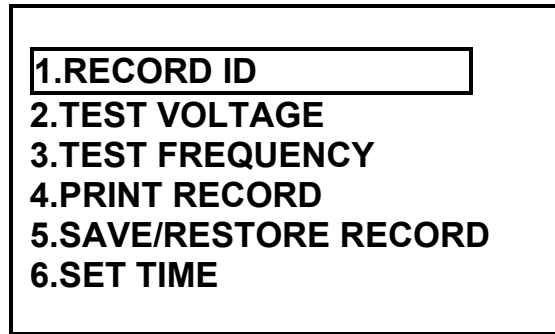

Figure 38.0 Setup Menu
- b. **Origin:** From the “Setup Menu” (Figure 38.0) select menu option 5.